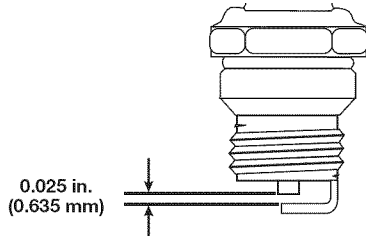

Fig. 16
3. Replace a cracked, fouled or dirty spark plug. Set the air gap at **0.025 in. (0.635 mm)** using a feeler gauge (Fig. 16).